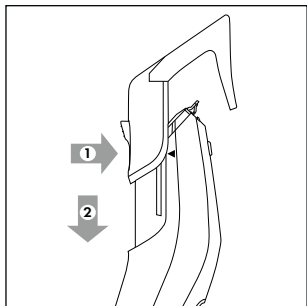

Fig. 2
- ◆ To fit a comb attachment **10/11** push it onto the appliance below the shaving head **1**. Make sure it slides into the guide rails **3** on the left and right side of the appliance. Then push the comb attachment **10/11** along the guide rails **3** and slide it downwards (see fig. 2). While doing so, keep the button on the rear of the comb attachment **10/11** pressed in.